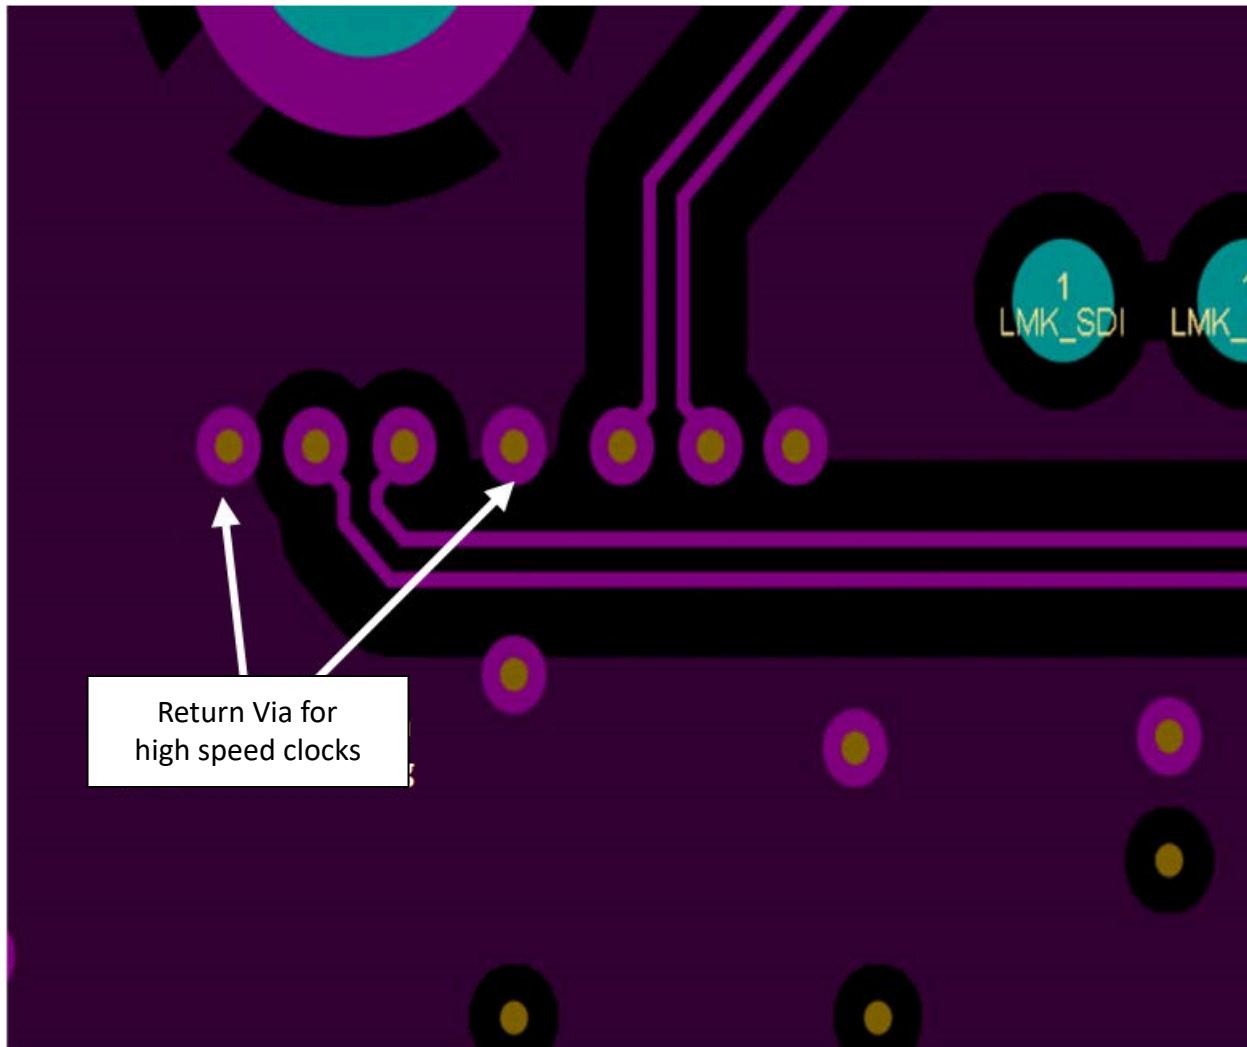
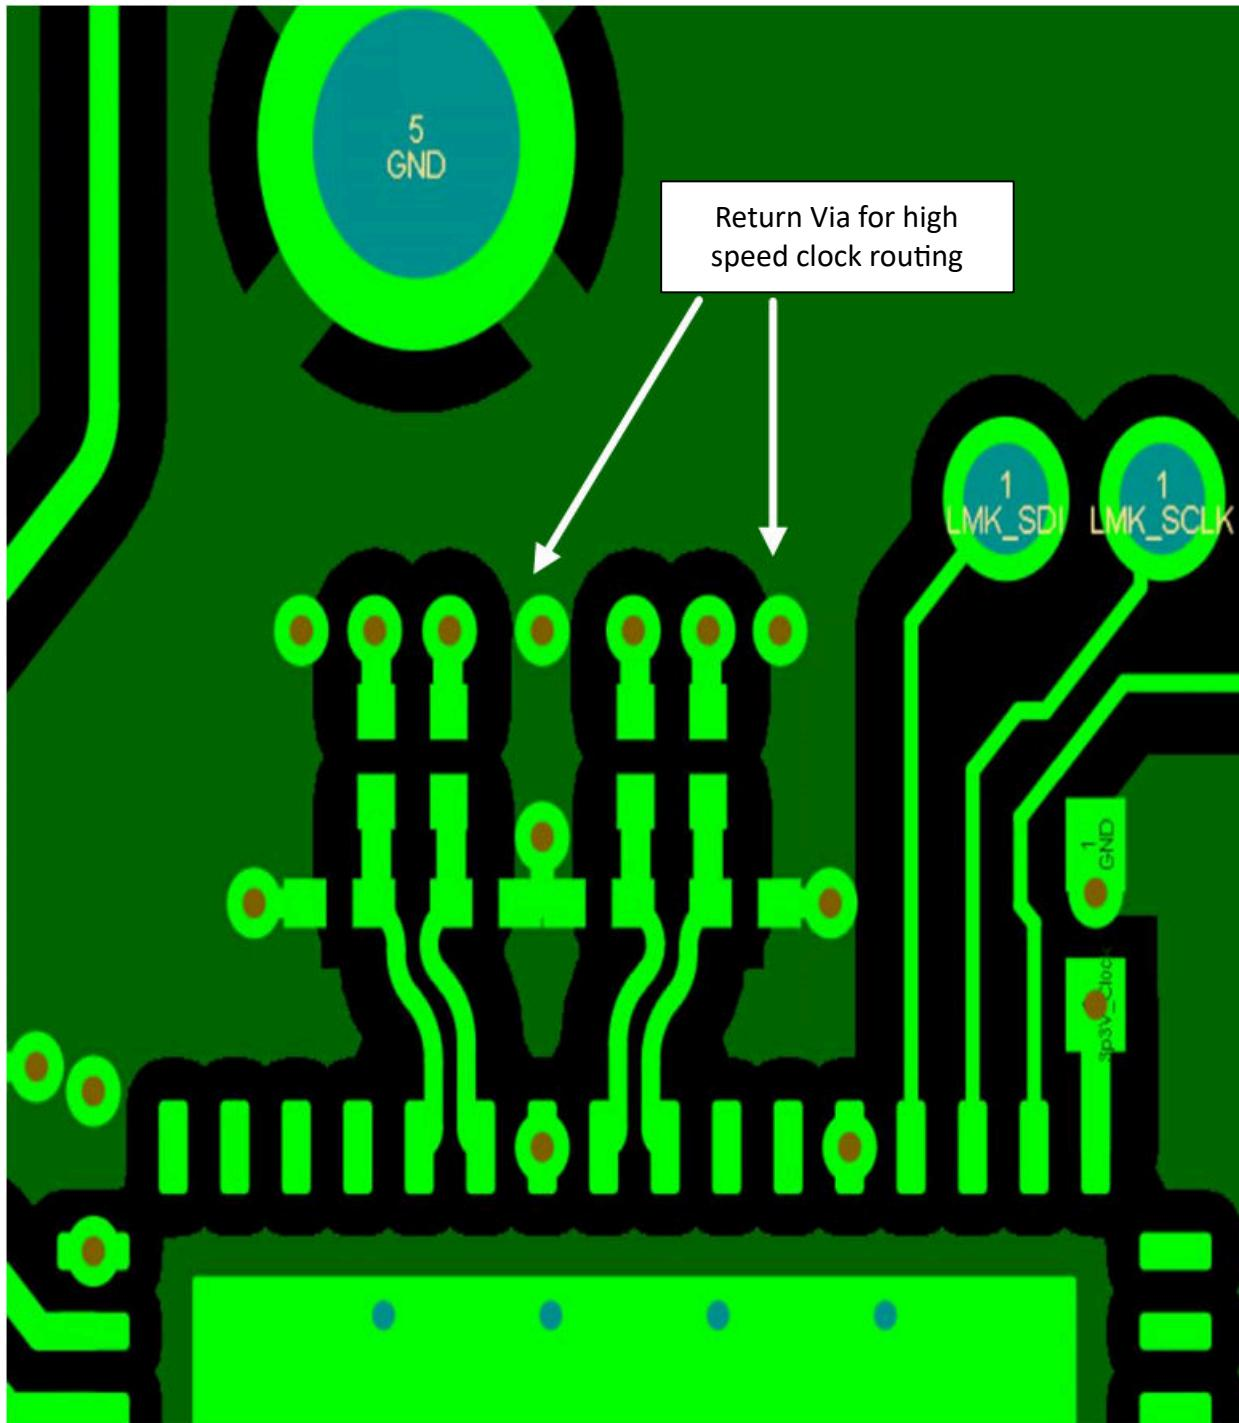

Figure 8-27. Return Vias for High Speed Clock
Figure 8-28. Return Vias for High Speed Clock Near Clock Generator
8. When high-speed signals must transition to another layer using vias, transition as far through the board as possible (top to bottom is best case) to minimize via stubs on top or bottom of the vias. If layer selection is not flexible, use back-drilled or buried, blind vias to eliminate stubs. Always place two ground vias ("return vias") close to critical high-speed signal trace via when transitioning between layers to provide a nearby ground return path. See Figure 8-27 and Figure 8-28 as examples.